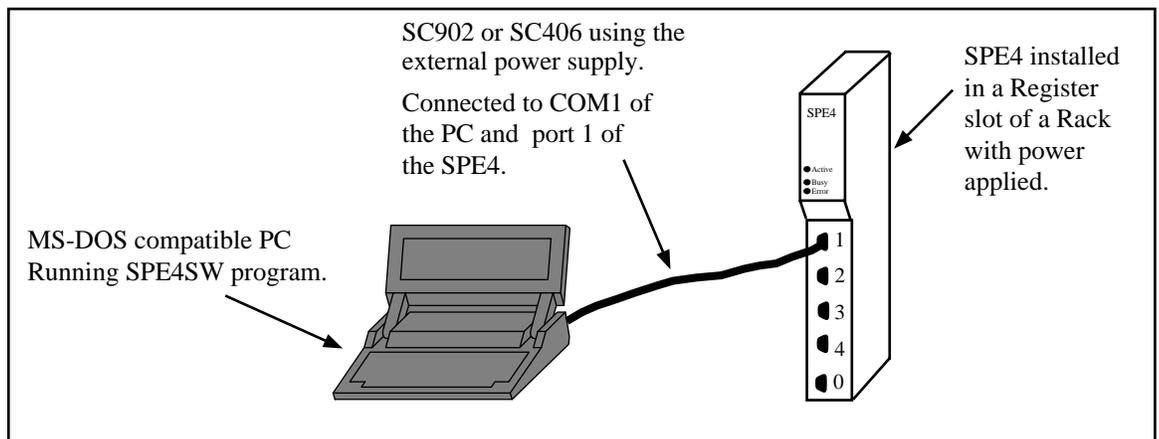

Figure 2-1 SPE4 Initial Configuration Setup
- 3 The SPE4 should receive its initial configuration by direct connection from an MS/DOS® personal computer COM: port (See Figure 2-1). Niobrara's SC406 (or SC902) RS-232 to RS-422 converter cable can be used to make this connection. Ports 1-4 provide full handshaking of the RTS/CTS pins and do not provide power for the smart cable. **The external power supply for the Smart Cable must be used when connected to Ports 1 through 4.** The factory default configuration for the module is that all ports are SY/MAX, 9600 baud, 8 data bits, EVEN parity, 1 stop bit so any port may be used for configuration.
- 7 For a direct connection as in Figure 2-1, the above settings should work. Refer to Chapter 17 on page 99 for additional information on the setup parameters.